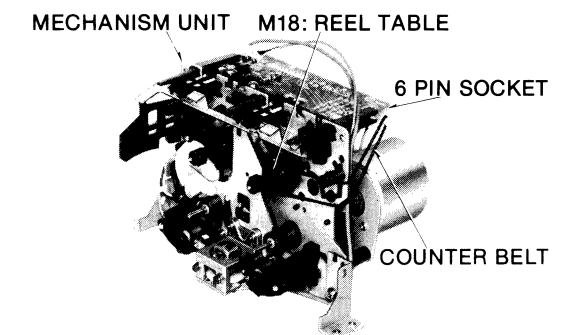

Fig. 12
2. Before attach Assembly, th (M18) and th Fig. 12, and screws (K) Counter Bel thread it ove 7. Make su
- Before attaching the Mechanism Unit to the Front Panel Assembly, thread the Counter Belt over the Reel Table (M18) and the 6-pin Jumper Socket Cover as shown in Fig. 12, and then secure the Mechanism Unit with two screws (K) (Refer to the Fig. 7.). Then, remove the Counter Belt from the 6-pin Jumper Socket Cover, and thread it over the Tape Counter Pulley as shown in Fig. 7. Make sure that the Counter Belt is not twisted.